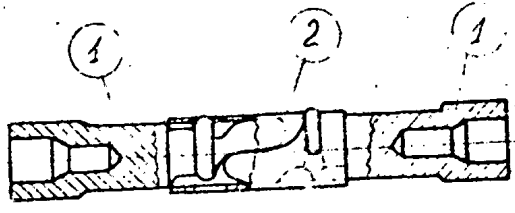

Fig. 5. JR-1 individual connector
2. individual connectors type IR-1 /Fig.5/